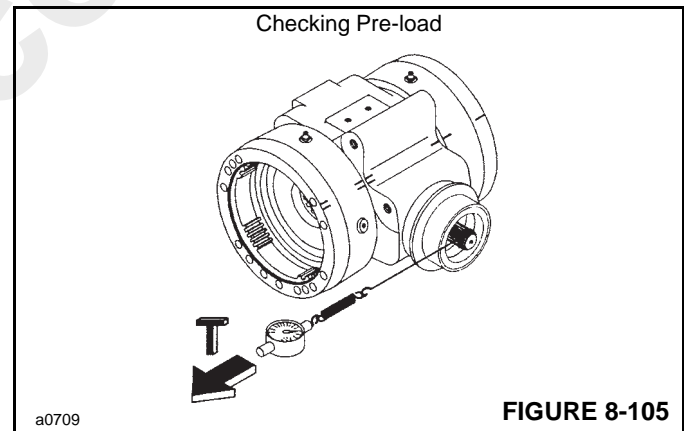

FIGURE 8-105
13. Measure the total pre-loading (T) of the bearing (pinion-bevel gear system), using a dynamiter whose cord is wound on the pinion spline end (Figure 8-105).